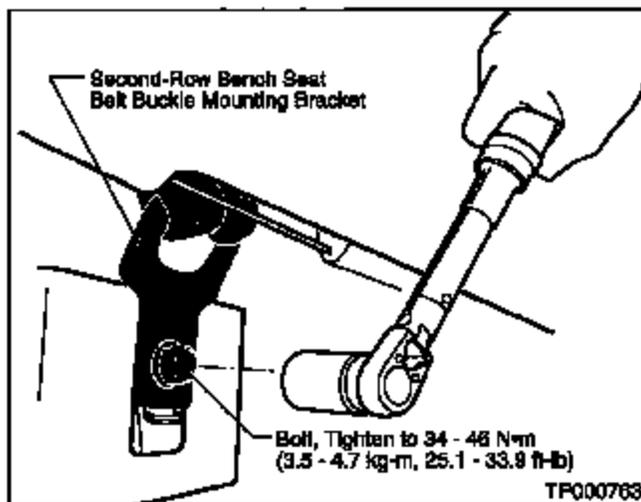

Figure 9
3. Install the new seat belt buckles and tighten the mounting bolt to 34 – 46 Nm (3.5 – 4.7 Kg-m, 25.1 – 33.9 ft-lbs). See Figure 9.